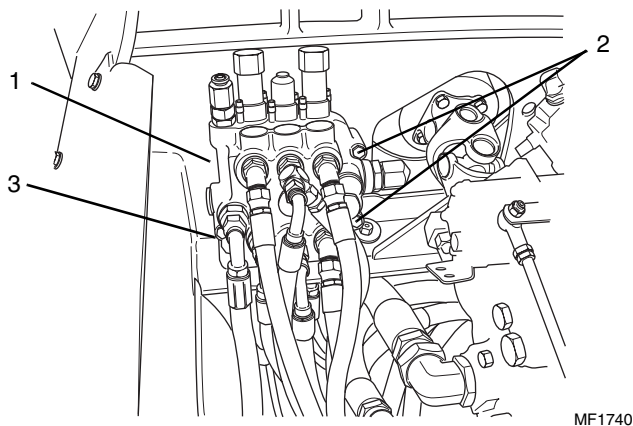

Figure 4-20 Main Control Valve
4. Remove any dirt and grease from the main control valve (Fig. 4-20, 1), hydraulic fittings and lines.
5. Tag and disconnect all hydraulic hoses from the main control valve (Fig. 4-20, 1). Plug or cap all hoses.
7. Remove the three screws (Fig. 4-20, 2 & 3) that fasten the main control valve to the frame crossmember.
8. Remove the main control valve (Fig. 4-20, 1) with the cables attached.